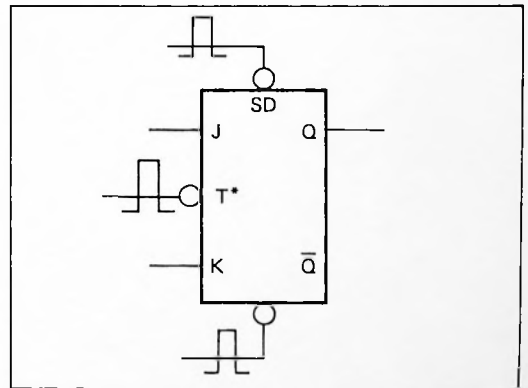

Figure C-8. "J-K" Flip/Flop Logic Symbol.
*T = Clock (CL) = Clock Pulse (CP).
h. **"J-K" Flip/Flop.** As shown in Figure C-8, the "J-K" Flip/Flop Q output goes HIGH (+5 Vdc) when the "J" input is HIGH (+5 Vdc) and the T (toggle) input transitions from a HIGH (+5 Vdc) to a LOW (GRD).